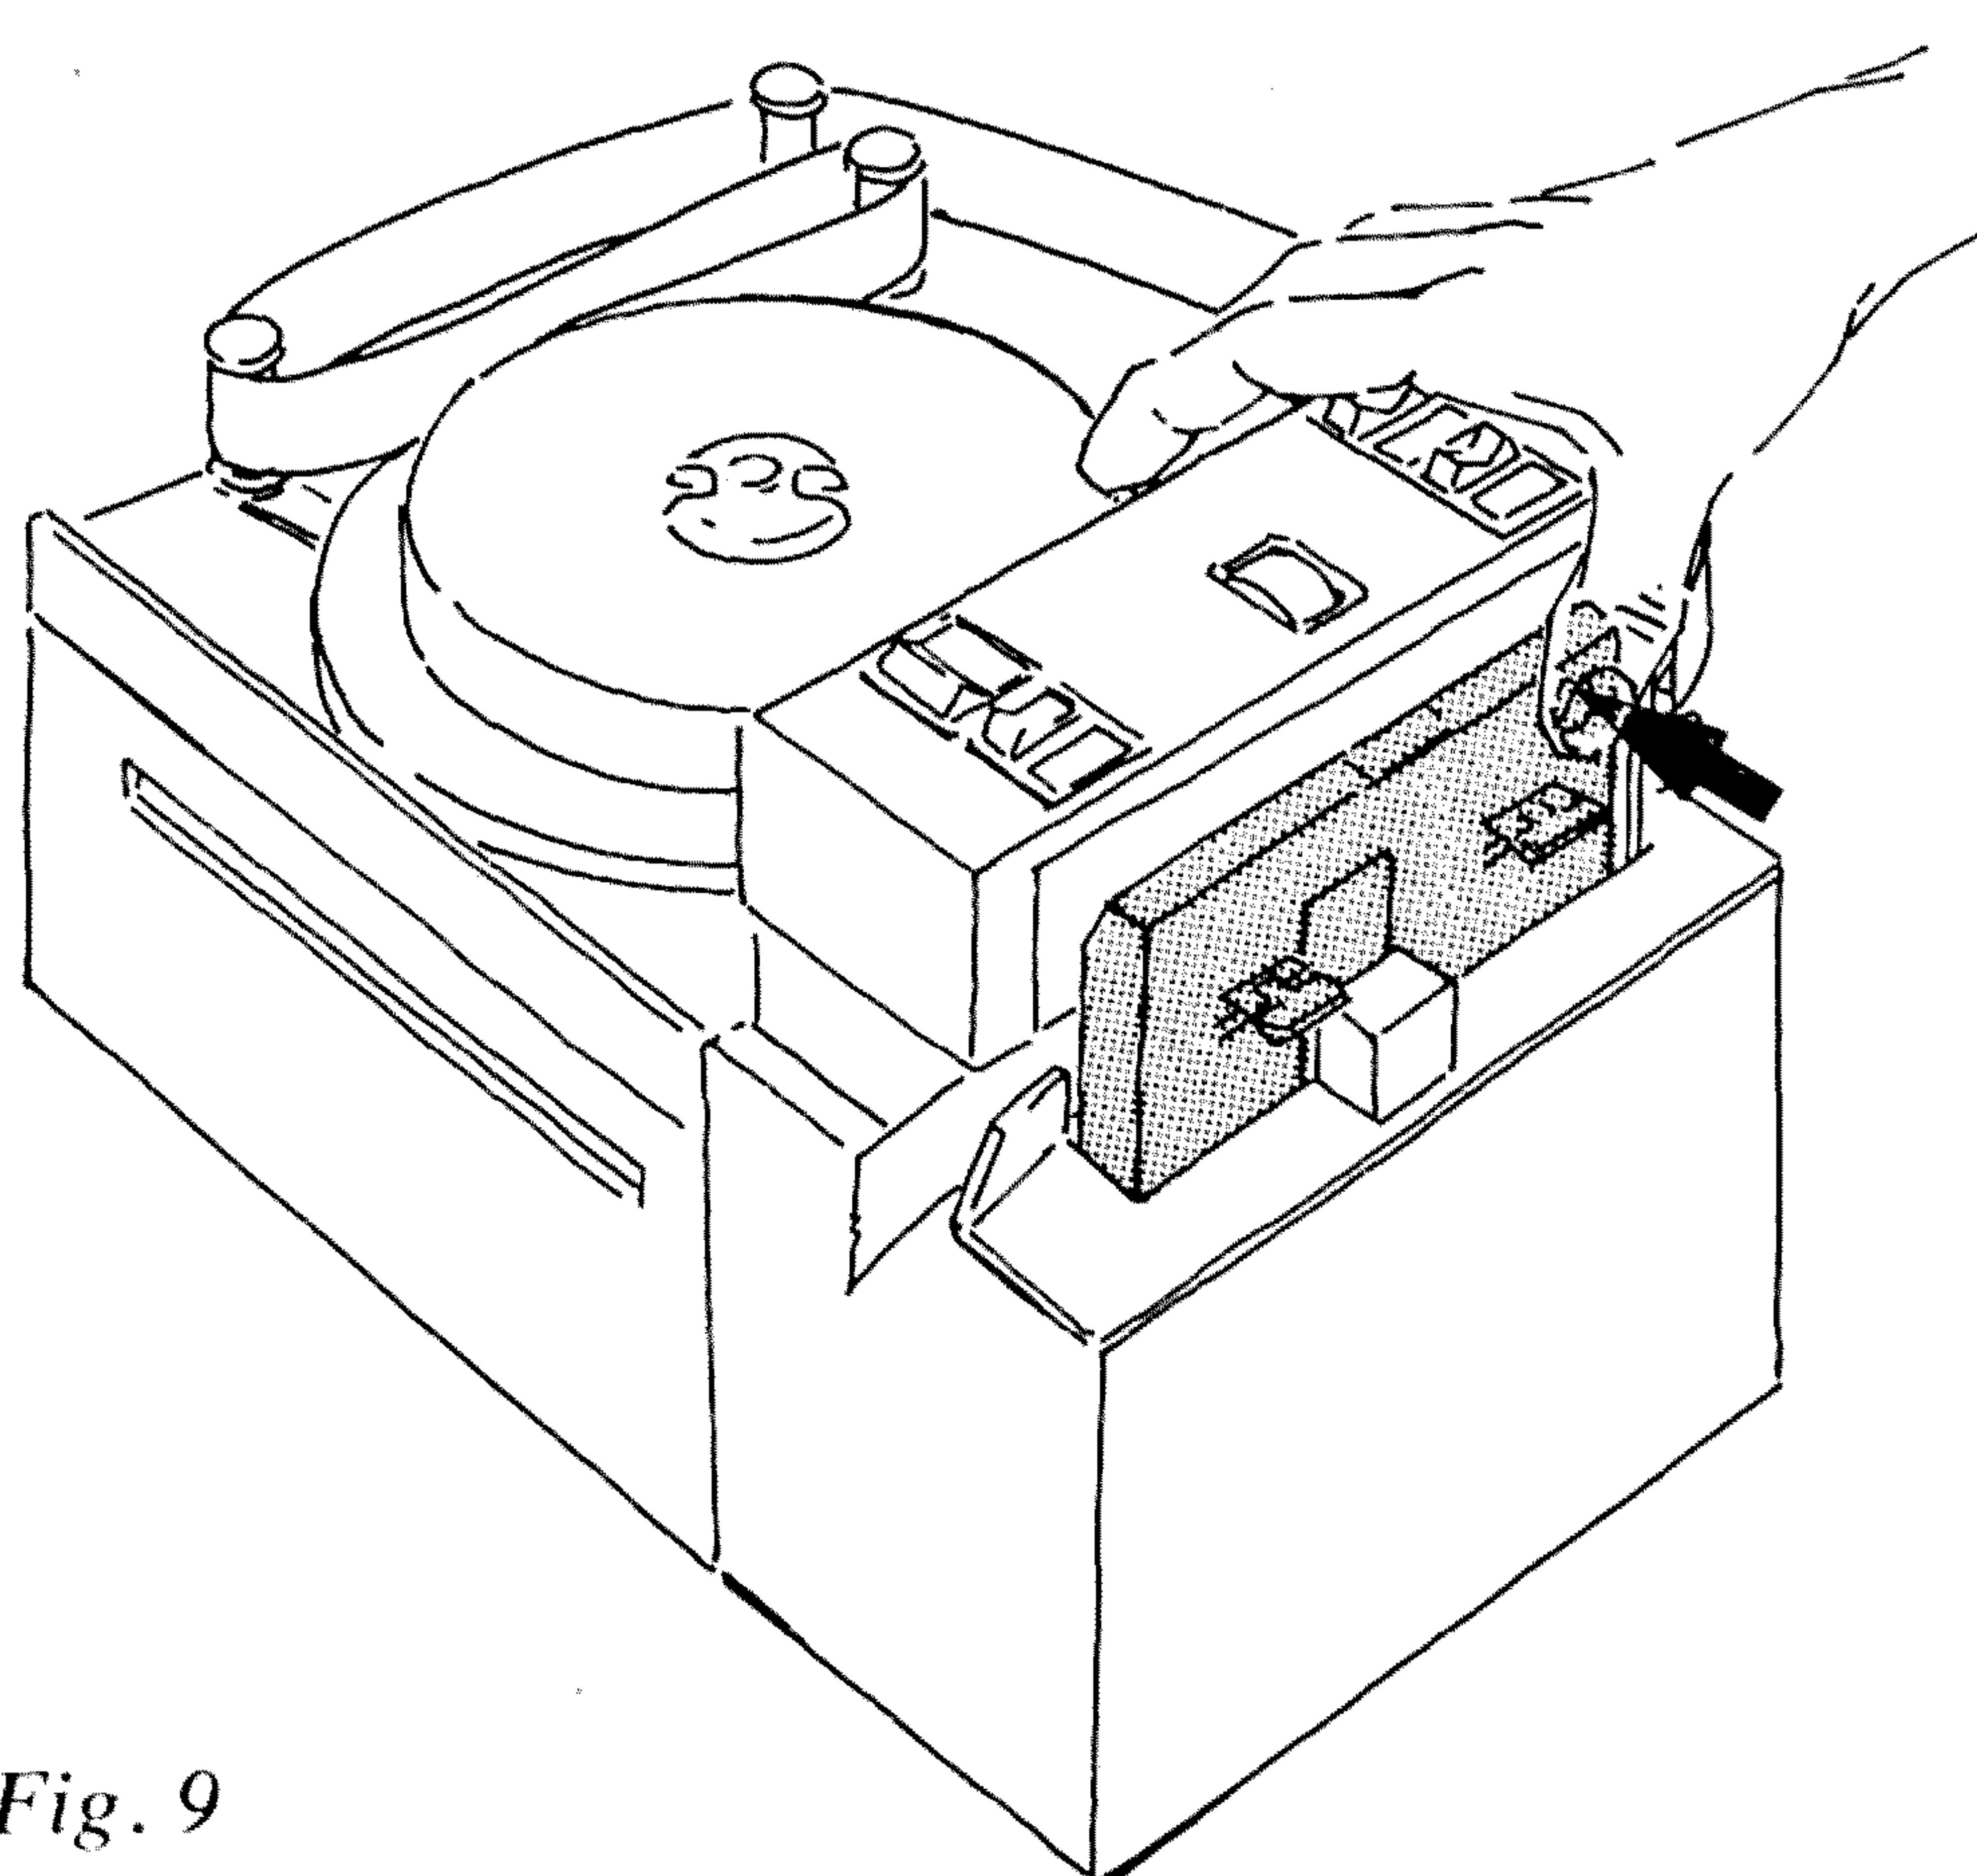

Fig. 9
- Close the cover by pressing on the white "press-to-lock" spot as shown in Fig. 9. The STANDBY lamp will be extinguished.
- Insert the fan-folded tape in the right-hand cassette compartment as shown in Fig. 9. See section entitled "Inserting tape and preparing for reading" for information about the reference edge of the tape.